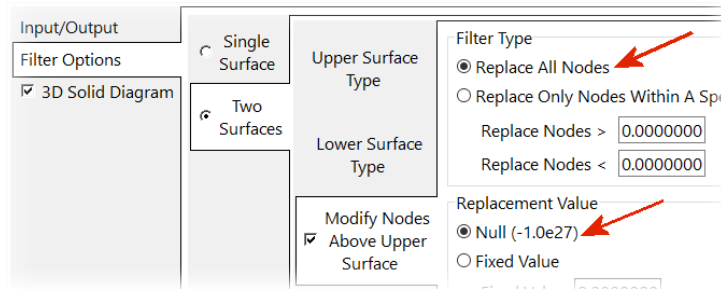

Figure 17
- Configure the program (Figure 17) to *Replace All Nodes Above the Upper Surface* (i.e., the *Horizontal Plane* at 950 meters) with a *Null* value.